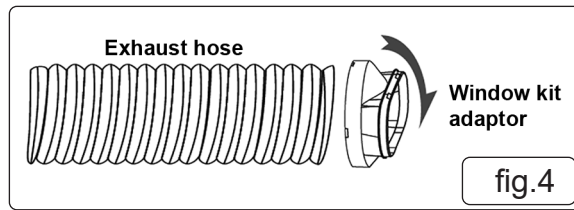

fig.4
5.2.2. Screw fit the window kit adaptor to the other end of the exhaust hose (fig.4).